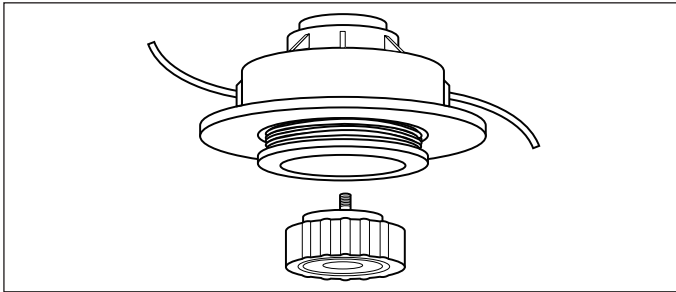

Fig. 21b
7. To replace the spool simply remove from the trimmer head (B10) and replace with a new one of the same type. (See Fig. 21b)